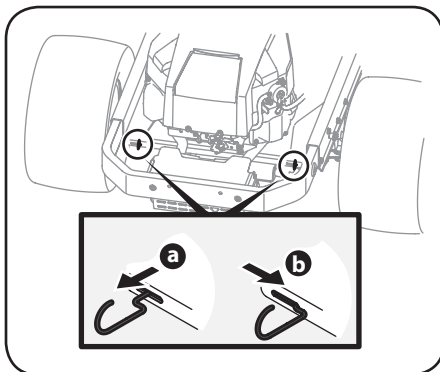

Figure 2-1
1. Engage the transmission bypass rods, one on each side of the tractor, to move the tractor manually without starting it. The transmission bypass rods are located on the rear of the tractor, just inside each rear wheel. Engage the bypass rods by pulling each one out (a) and to the right (b) to lock it into place. See Figure 2-1.
2. Disengage the bypass rods by reversing the steps after moving the tractor. See Figure 2-1.